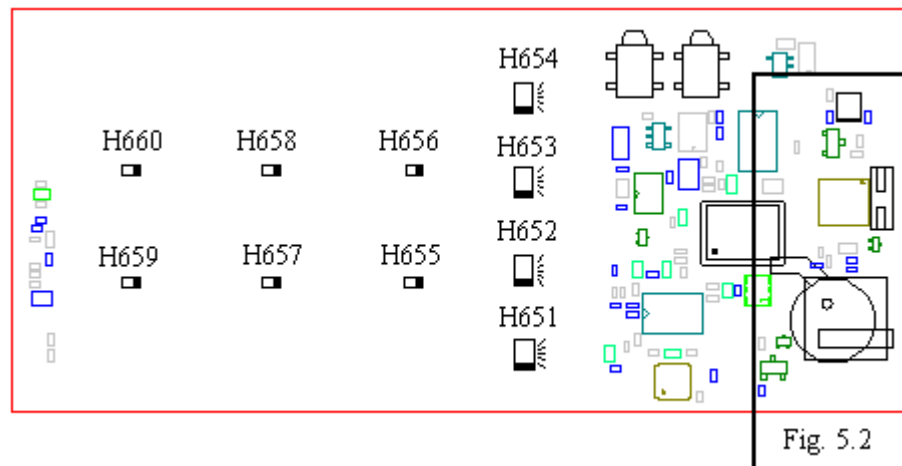

Fig. 5.1
The front side of the circuit board is shown in fig. 5.1.
Make sure all the LEDs (H651-H654, all of them class A, fig. 5.1) are mounted and correctly soldered.
- If the resistance is higher than 0 ohms, make sure there is VBATT voltage at the marked side of the LEDs (fig. 5.1).
Make sure all of the LEDs, H655-H660 (all of them class A, all in fig. 5.1), are intact, mounted and correctly soldered.